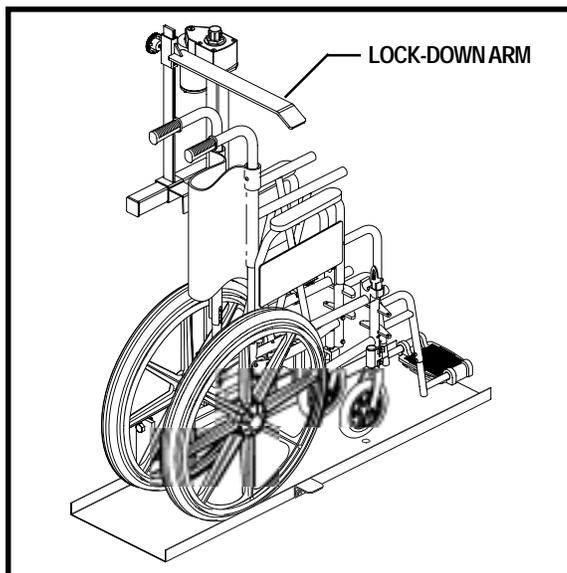

Figure 7. Wheelchair Positioning
4. Roll the wheelchair onto the center of the lift platform. See figure 7.
NOTE: Make sure that the lock-down arm is in the fully raised position before loading the wheelchair onto the lift platform. See figure 7.